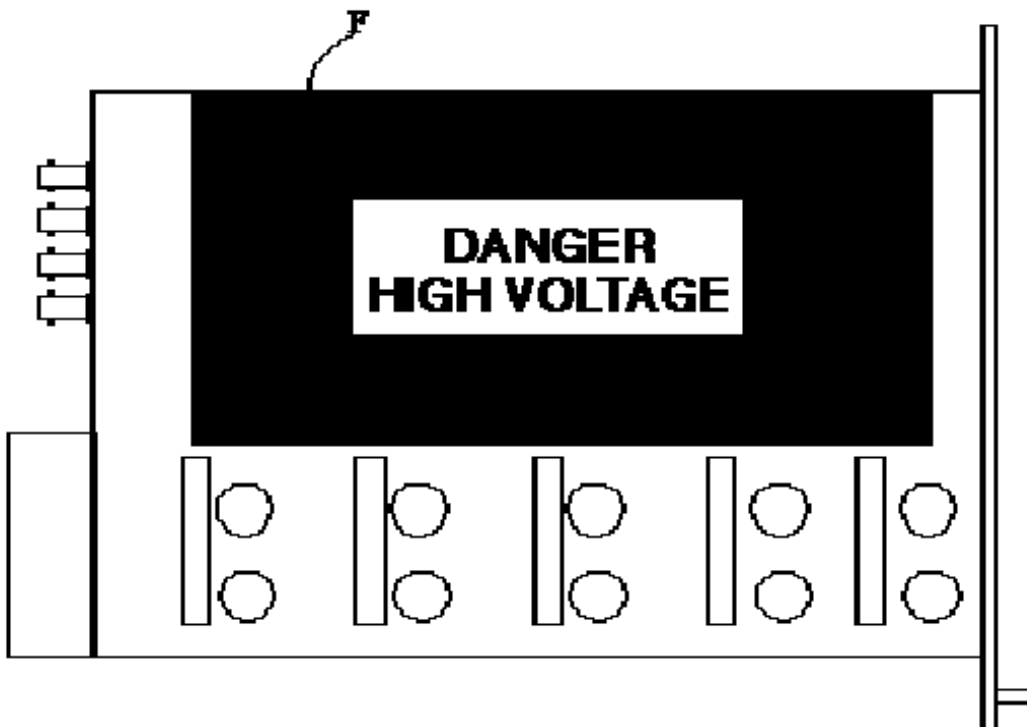

Fig. 3
2. Lay down the unit, NIM crate connector on the left and the front panel on the right, components side up and refer to Figure 3.